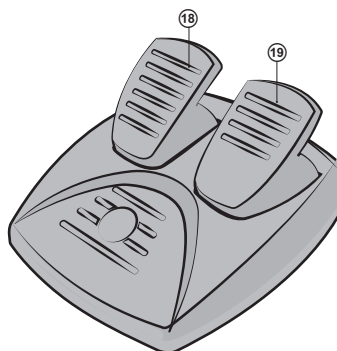

Fig. 3. Foot pedal unit
- Connect pedal unit to the device (Fig. 3) via cable ⑰ of the pedal unit to RJ-11 jack ⑱, then connect USB cable ⑰ of the device to the USB port of the computer.